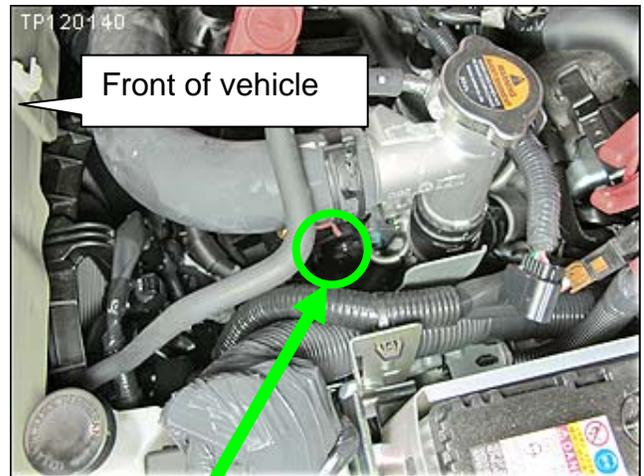

Figure 18
21. Using 10 mm socket, remove 1 intake manifold bolt (shown in Figures 18 and 19) on driver's side of intake manifold.